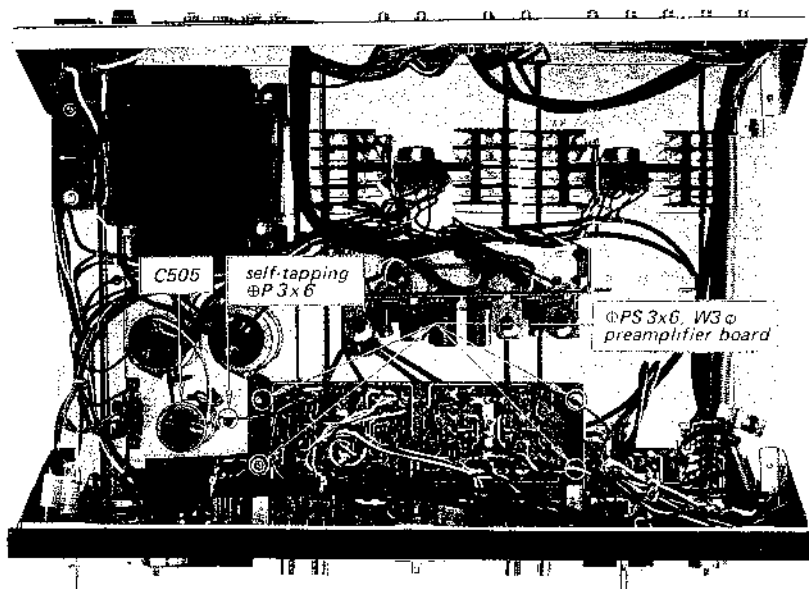

Fig. 2-6 C505 removal and preamplifier removal
3. Remove the self-tapping screw (\emptyset P 3 \times 6) securing electrolytic capacitor C505 (Fig. 2-6) to the bottom plate, if necessary, then remove the capacitor.
1. Remove the preamplifier board by loosening the four screws (\emptyset PS3 \times 6) securing it to its mounting bracket. See Fig. 2-6.